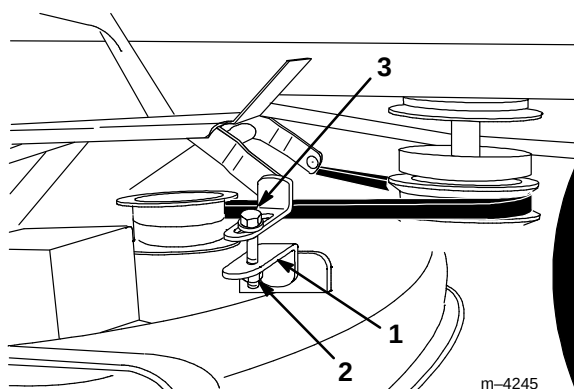

Figure 11
6. To adjust front-to rear blade level loosen the jam nut on both front adjustable links. (Fig. 11).
7. Rotate the bolt on each front adjustable link to change front-to rear blade level (Fig. 11).